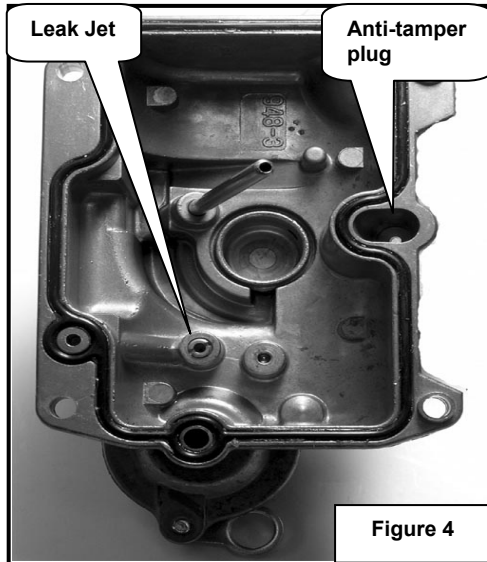

Figure 4
- Remove float bowl from carburetor body and tap out the anti-tamper plug.(figure 4)
- Install leak jet (WR250F only)(#11) (figure 4)